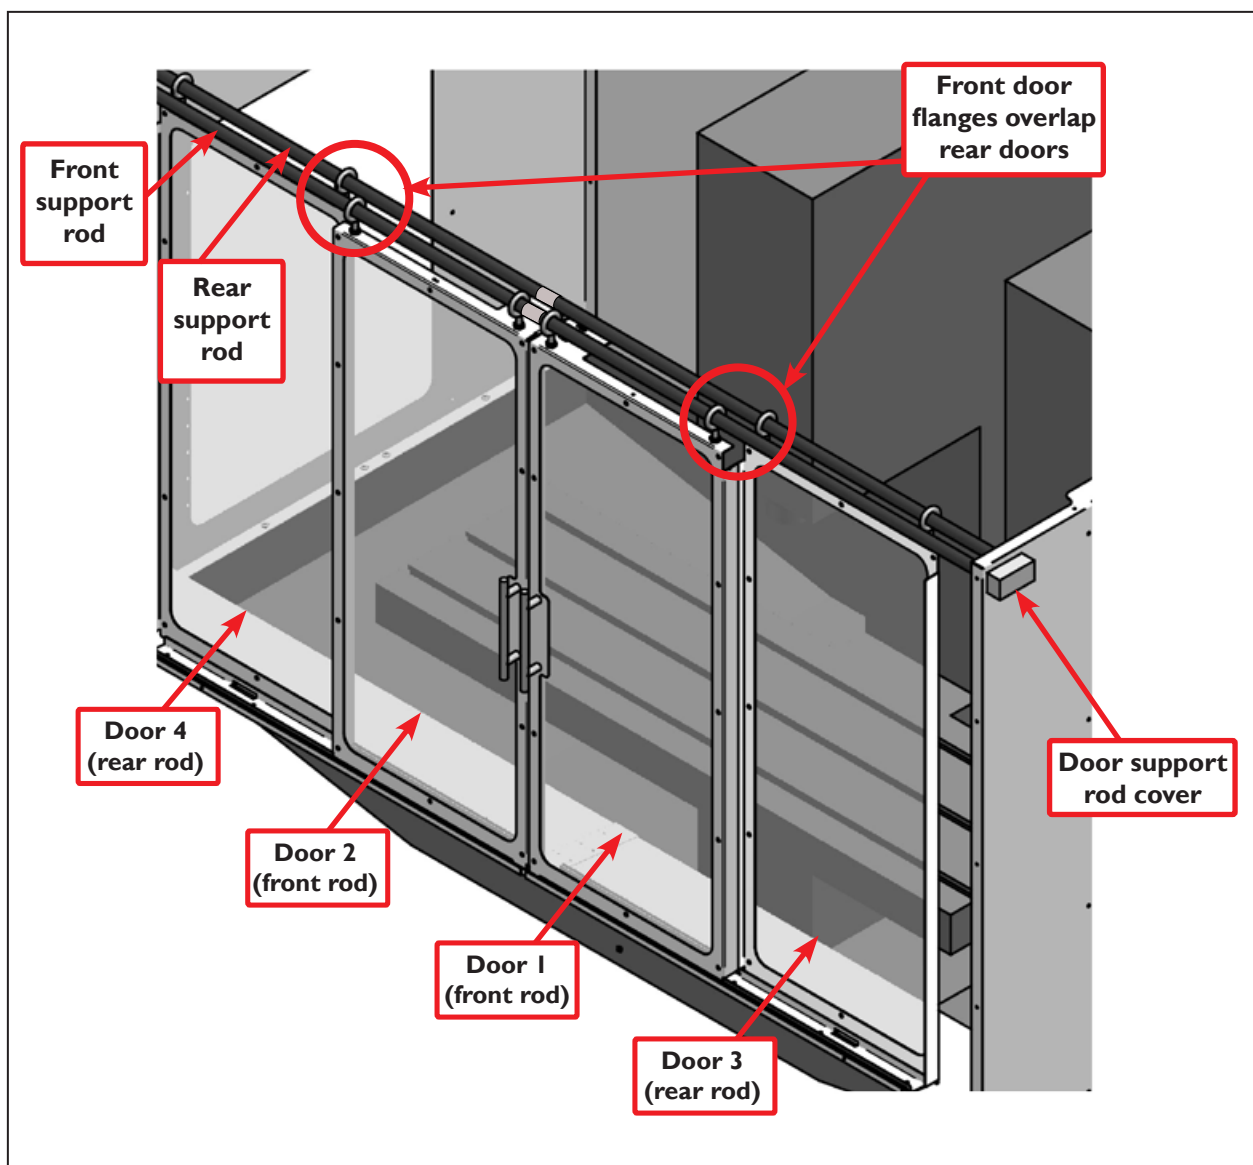

Figure 28
74. Remove the Door Support Rod Covers (E.11) from both of the two side panels (E.16 and E.17) as shown in **Figure 28**.